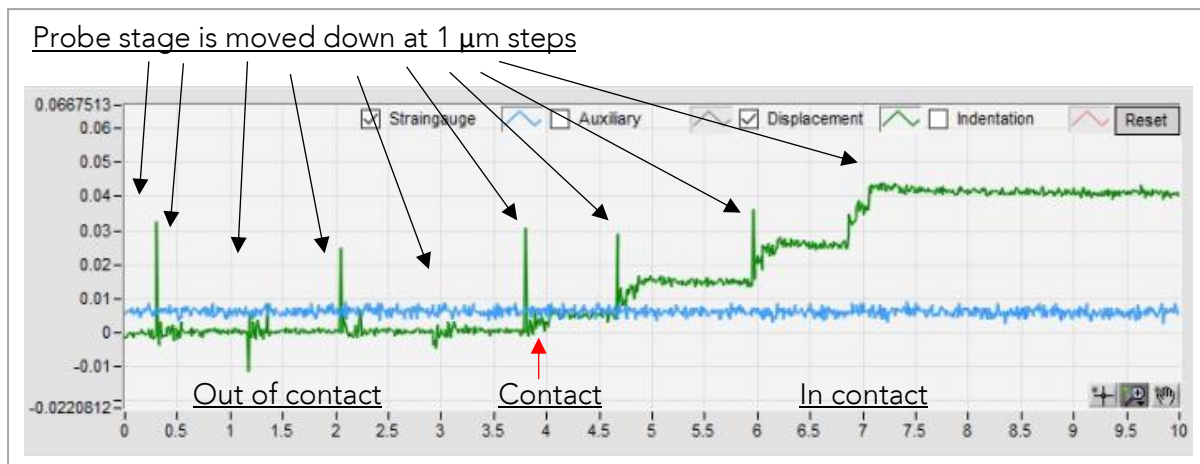

Figure 3 Manual finding of the surface position by pressing down the probe stage at 1 μm steps.
7. The next step is to press 'find surface'. The system will now start to continuously move down the probe stage while the piezo is fully extended and operates in a closed-loop. Once the cantilever bends by a threshold value set in the 'Options' menu (Figure 4), the stage will stop and the piezo will retract so that the probe is in contact with the surface. You can check if the probe is in contact with the surface by pressing the probe stage up and down in 1 μm steps. The green signal in the live window of the software will change its baseline with each step when the cantilever is in contact with the sample (Figure 3). If it does not, it means that the cantilever is not in contact and you should either increase the 'threshold' value in the 'Options' menu and repeat the 'find surface' step or manually bring down the probe to contact in small 1 μm steps.